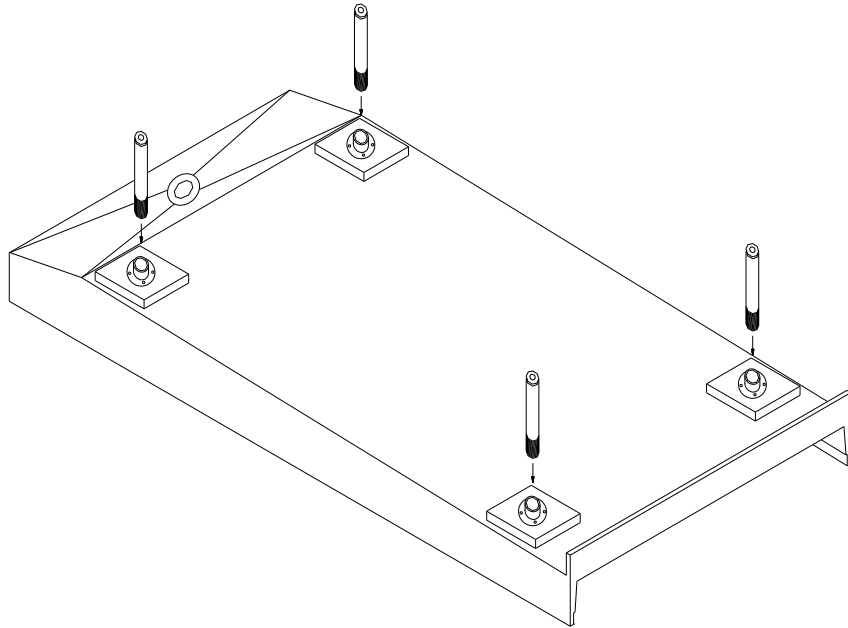

Figure 2.
1. Turn each unit until the bottom side is up (be sure to pad the floor with cardboard or other suitable material to protect the finish). Insert a leveling leg into each flange on the bottom of the base unit and tighten. See Figure 2.